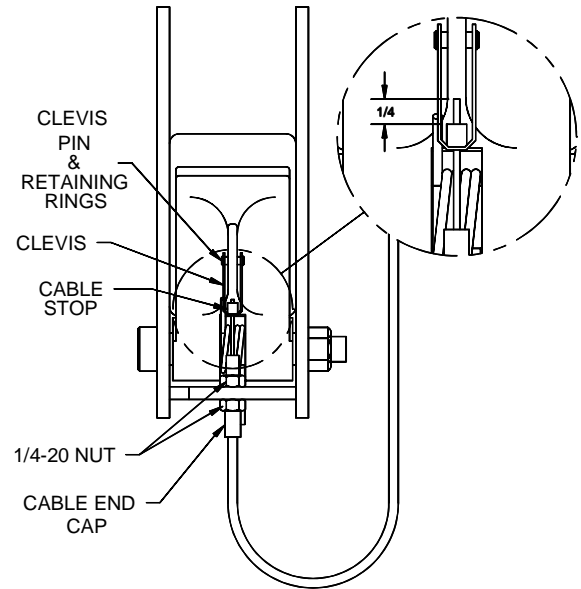

Fig 12
20. Attach the clevis to the bottom hole of the idler side locking pawl using the clevis pin and retaining ring. The complete assembly for the idler column should be as shown in **Fig 12**.